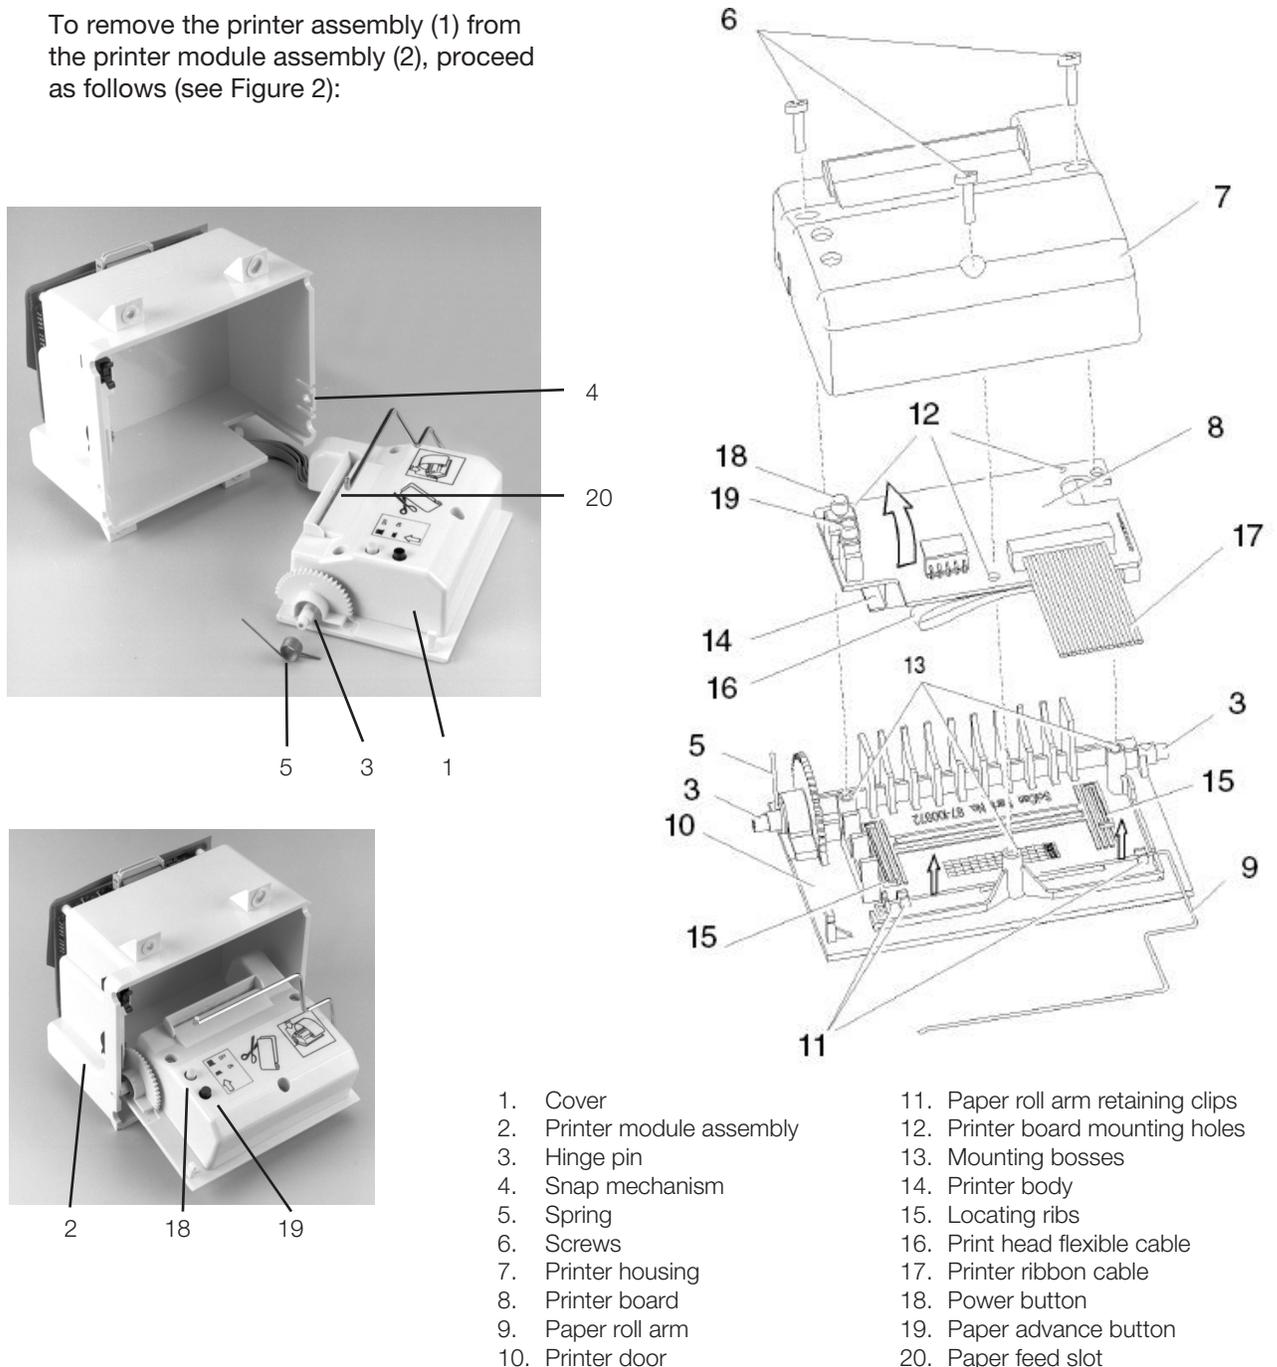

Figure 2
2. To adjust and test print quality, turn the unit power switch ON. Open the printer module and enable the printer by pressing the printer power button (item 18, Figure 2). Start and then quickly stop a cycle. Doing so causes an error message to be printed. While the error message is printing, adjust the pot (R21).
To remove the printer assembly (1) from the printer module assembly (2), proceed as follows (see Figure 2):
To replace the printer, proceed as follows (see Figure 2):